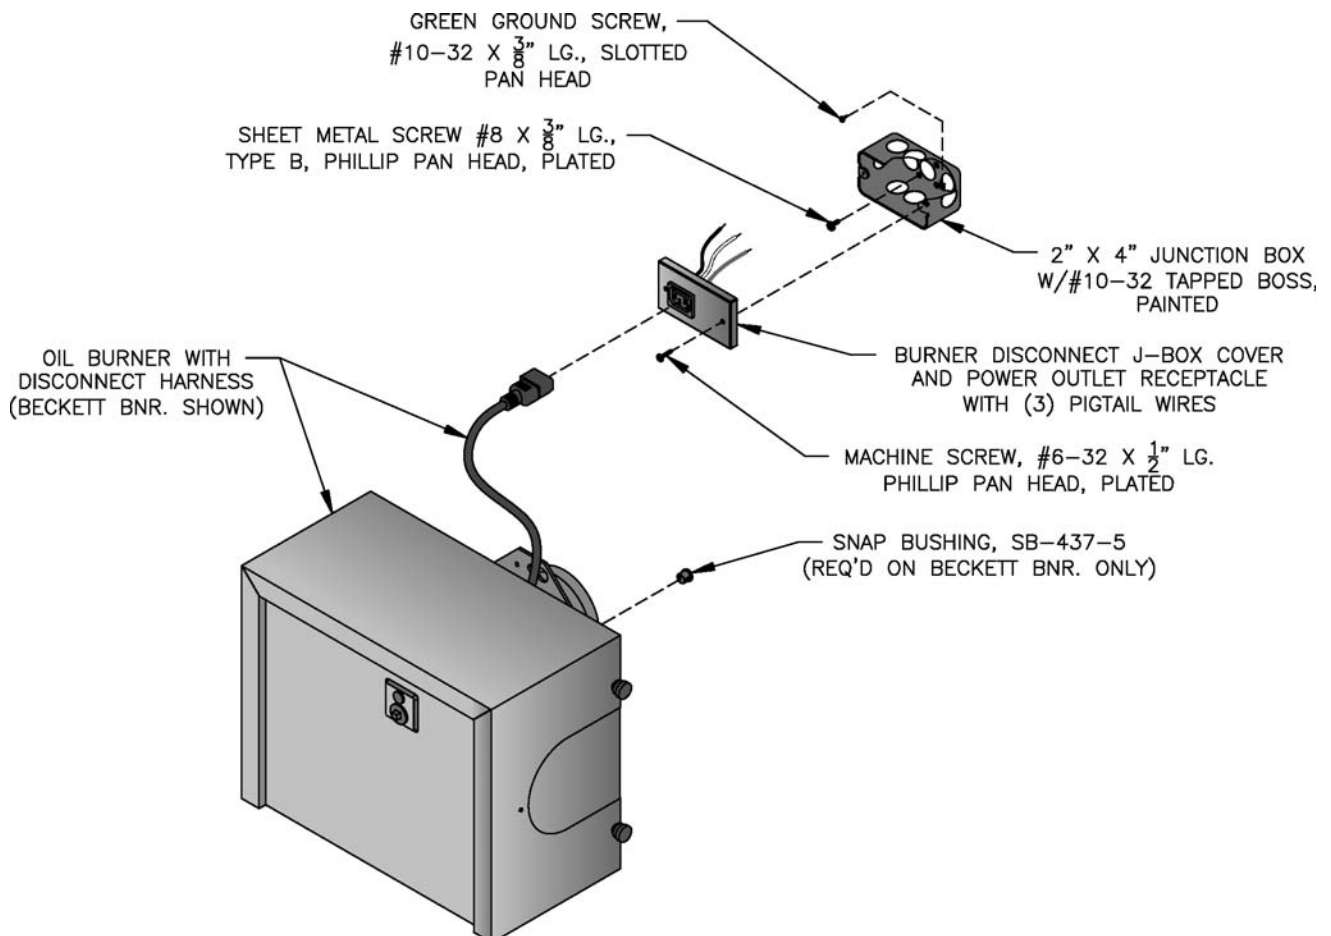

Figure 10: Burner Disconnect Junction Box with Power Outlet Receptacle (Mated to Burners with Disconnect Harness)
If you are using a burner with the disconnect harness, complete the following assembly instructions for mounting the mating burner disconnect junction box, see Figure 10.
5. Secure J-box cover to junction box with (2) #6 x 1/2" lg. machine screws.
7. Install snap bushing into 7/16" diameter hole in upper right corner of burner enclosure back plate on all Beckett burners, see Figure 10. On certain builds, 18/2 wire from L4006A Aquastat Control mounted in rear heater will pass through this snap bushing and connect to "T-T" terminals on primary control, refer to Figures 20 and 21.